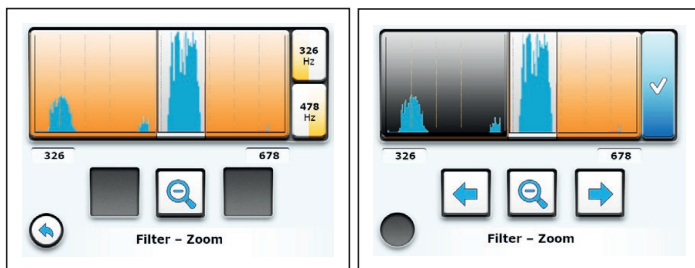

Fig. 25: **Filter – Zoom** menu: Exact filter adjustment
1. Tap the **Filter limits** button. The receiver will switch to the **Filter – Zoom** menu (fig. 25, left image).
2. Reset the filter limit. Tap one of the **Upper filter limit** or **Lower filter limit** buttons. The **Filter – Zoom** menu will change its appearance (fig. 25, right image).